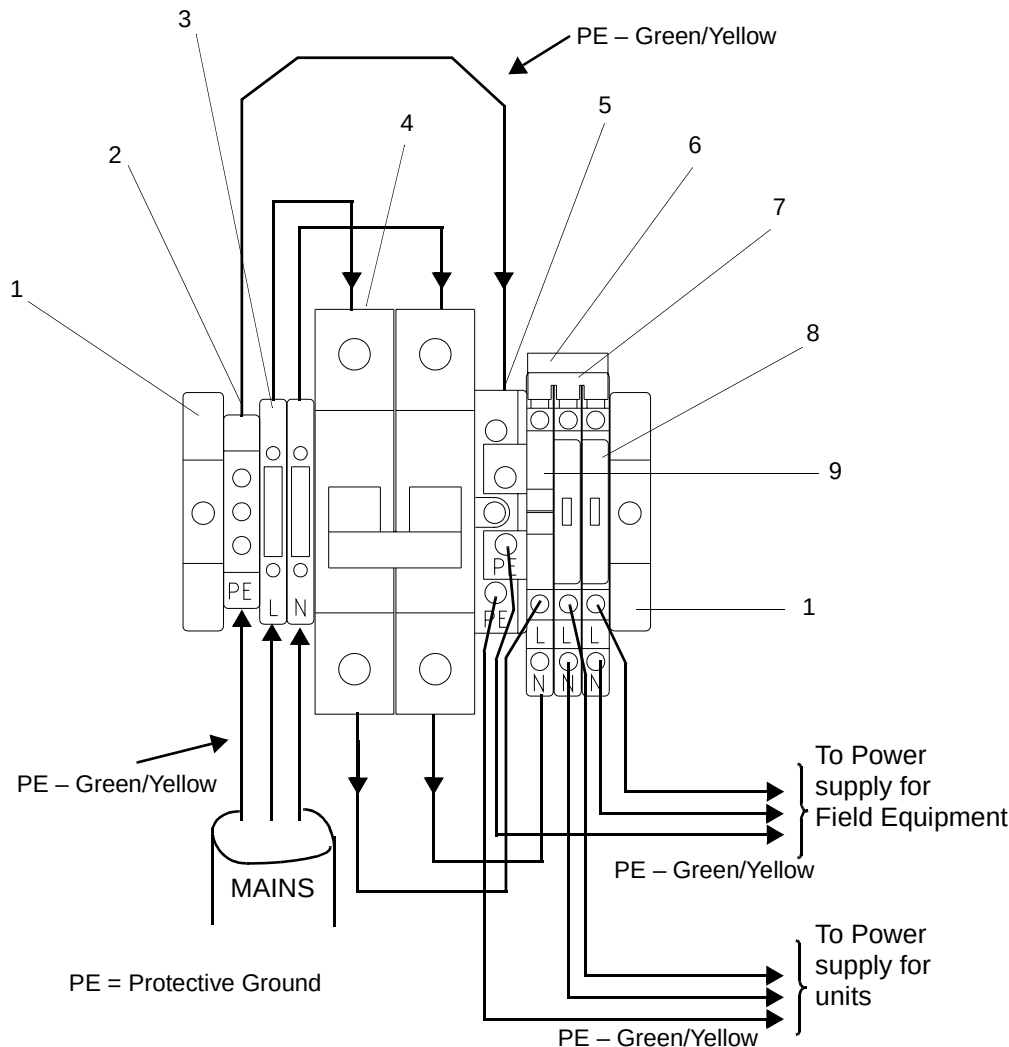

Figure 18. Installation of Mains Breaker Assembly
1. Mount the mains breaker unit components onto the DIN-rail, from left to right, close to the incoming power supply, in the order given below (see Figure 18 on page 80).
- a. A DIN-rail end-stop (1).
- b. The terminal for the incoming protective ground (2).
- c. The two terminals for the incoming Live and Neutral mains power (3). These terminals are equipped with built-in jumpers which, if necessary, can be opened to provide complete mains input power isolation.
- d. The miniature mains breaker unit (4).
- e. The protective ground distribution terminal (5).
- f. The mains distribution terminal block (6), depending on the required configuration.
- g. A DIN-rail end-stop (1).
2. Connect the incoming mains, the protective ground terminals, the mains breaker and the distribution terminals as shown in Figure 18 on page 80.
3. Install the two required links (7), fuse holders (8) and jumpers (9) onto the distribution terminals. Fit the required fuses into the fuse holders, (glass tube type, 5 x 20 mm (0.2 x 0.8 in)).